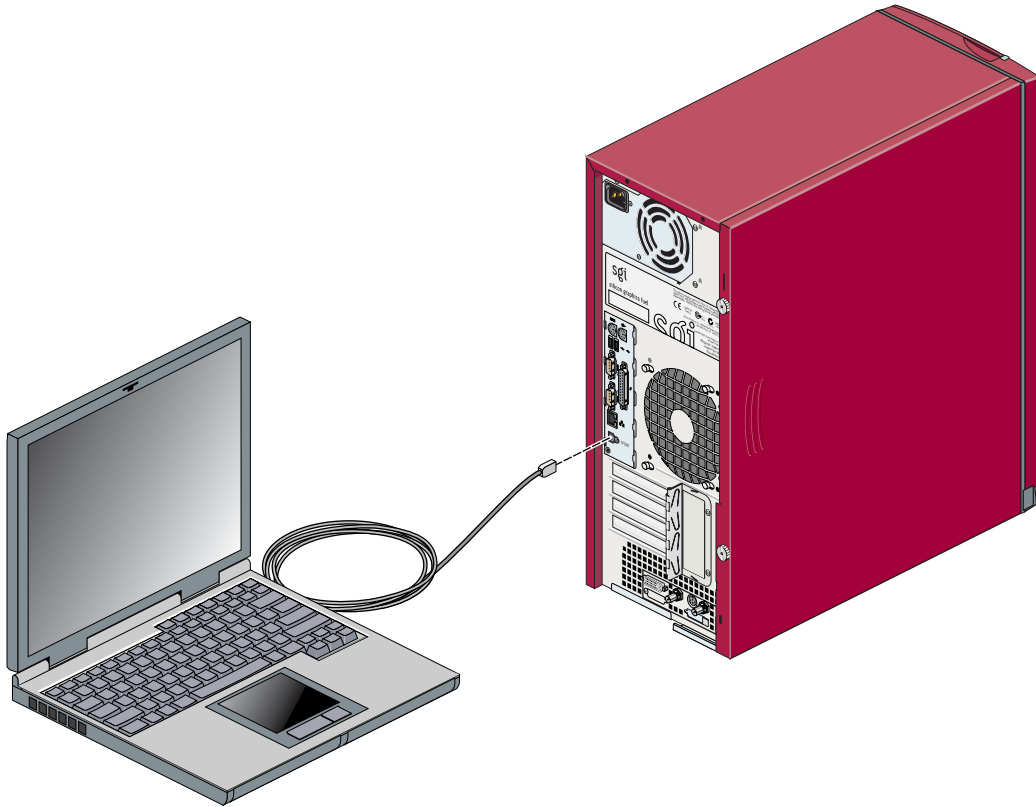

Figure 2-14 Connecting a System to the Diagnostic Port to Run scantool
1. Connect a USB cable from an external system that is running the L3 controller software to the diagnostic port on the back of the workstation. (Refer to Figure 2-14.)